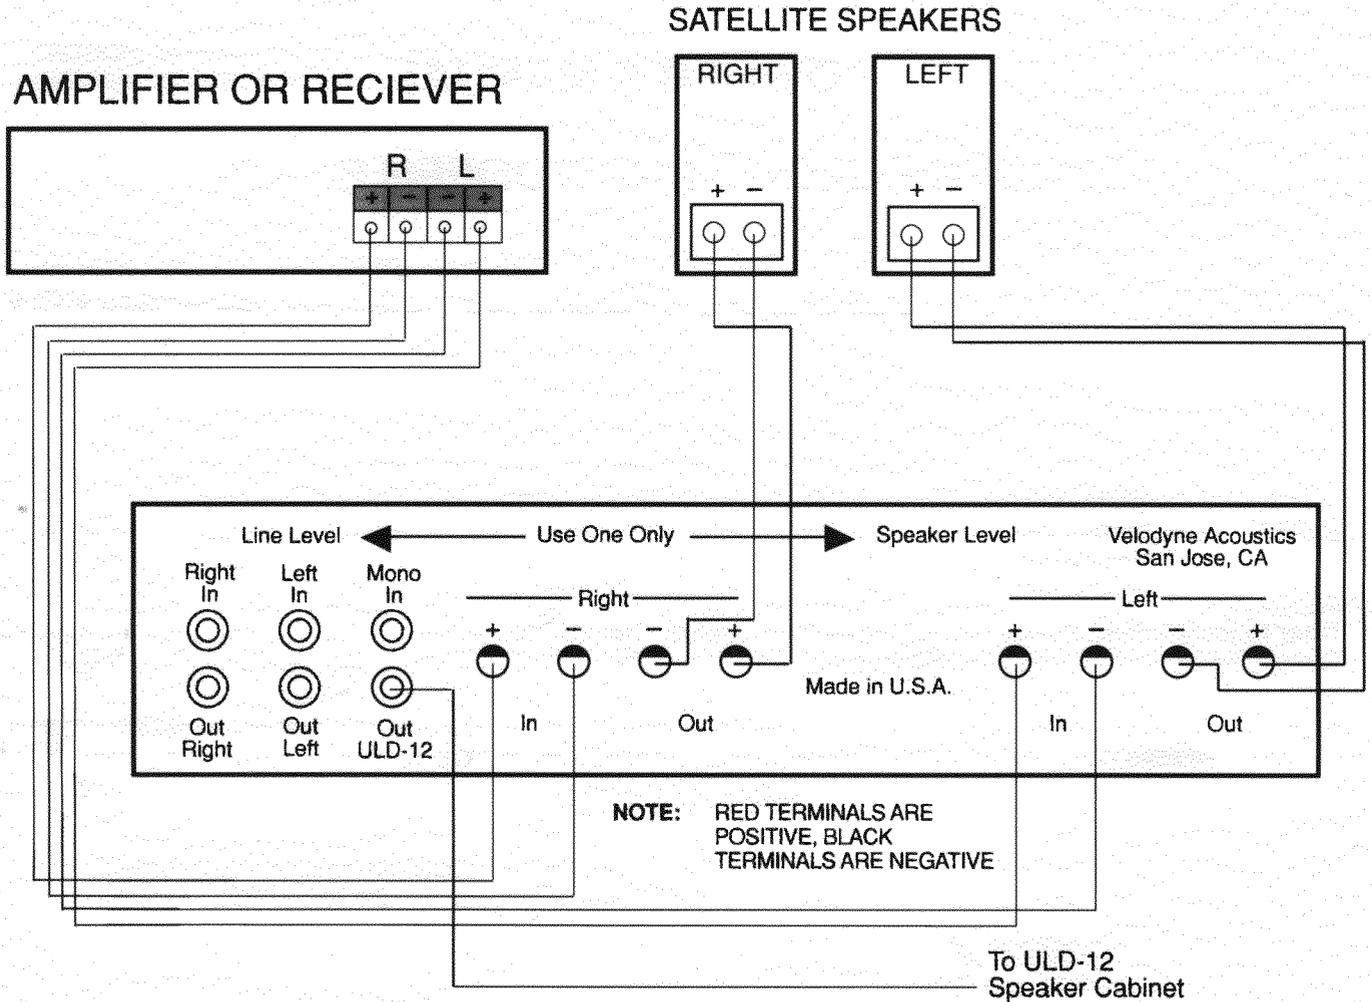

Figure 1: Installation Using FROM AMPLIFIER Inputs
**Interconnection Cables.** When installing your ULD-12 using FROM AMPLIFIER and TO SPEAKERS (as in Figure 1) run the same quality speaker cable to your subwoofer as you do to your satellites. If the speaker level cables to your ULD-12 will not be driving any satellites, then a medium gauge "zip cord" is sufficient to supply the subwoofer alone.
Figure 1 shows how to connect your ULD-12 to a receiver or integrated amplifier. When using the speaker level terminals, note the right and left channel designations above the terminals. Red speaker jacks are positive, black speaker jacks are negative (common).